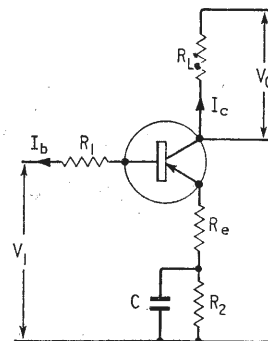
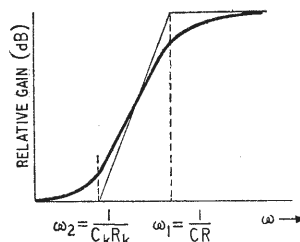

Fig. 5. Transistor stage with emitter by-pass capacitor C .
Fig. 6. Variation with frequency of transistor stage gain.
Now suppose that Z_L is a resistor R_L , Z_1 is a resistor R_1 and Z_e comprises a resistor R_2 in parallel with a capacitor C , both in series with a resistor R_e as shown in Fig. 5. Thus :-
By substituting the various component values into equation (14), we can obtain an expression for the voltage gain of Fig. 5. :-
The imaginary resistor R can be thought of as a resistor R_2 shunted by the series combination of R_e and $(1 - \alpha)R_1$. The frequency response obtained with the arrangement of Fig. 5 can be plotted as shown in Fig. 6. In this case :-